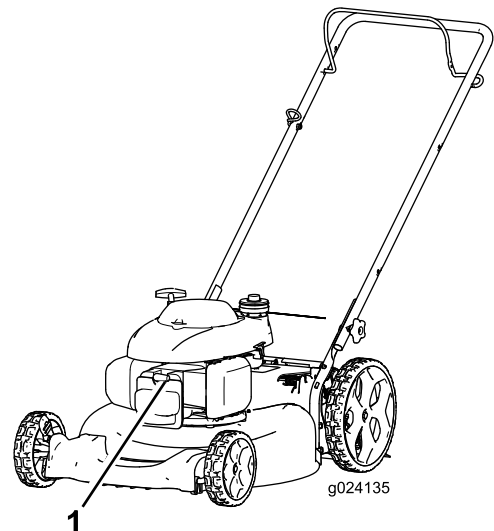

Figure 16
2. Disconnect the spark-plug wire from the spark plug (Figure 16) before performing any maintenance procedure.